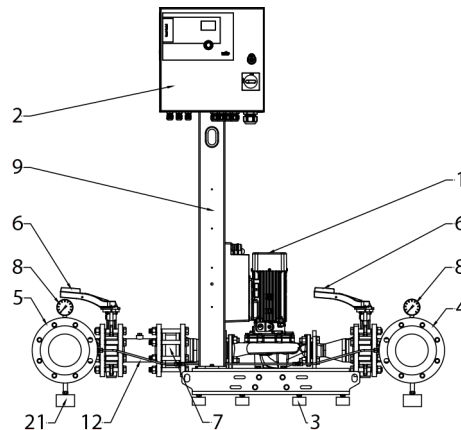
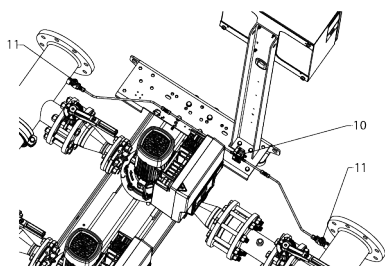

Fig. 1: System components
Fig. 2: Differential pressure sensor and stop valves
The compact system is mounted on a steel base frame with vibration absorbers (Fig. 1, Item 3). It consists of a group of 3 or 4 in-line pumps with electronics (Fig. 1, Item 1), which
are combined using a suction manifold pipe (Fig. 1, Item 4) and a discharge manifold pipe (Fig. 1, Item 5).
There is a stop valve on the suction and discharge side of each pump (Fig. 1, Item 6) and a swing check valve on the discharge side of the pump (Fig. 1, Item 7).
A flanged nipple (Fig. 1, Item 12) is fitted between the stop valve and the swing check valve.
A unit consisting of a differential pressure sensor (Fig. 2, Item 10), 2 manometers (Fig. 1, Item 8) and 2 stop valves (Fig. 2, Item 11) is installed between the manifolds and on the switchgear holders.
When the pumps are in operation, the stop valve (Fig. 2, Item 11) must be open.
In-line pumps (Fig. 1, Item 1)
Switchgear (Fig. 1, Item 2)
The SC series switchgear is used to control and regulate the SiFlux-YG2.0. The switchgear is fixed to the base frame using a holder (Fig. 1, Item 9). The electrical components of the system are connected to the switchgear.
Suction manifold (Fig. 1, Item 4) and discharge manifold (Fig. 1, Item 5)
6. Position and adjust the support feet (Fig. 1, Item 21).
Never remove polyester webbing slings from the manifold before the support feet (Fig. 1, Fig. 21) have been positioned and adjusted. This is the only way to ensure it is perfectly horizontal.